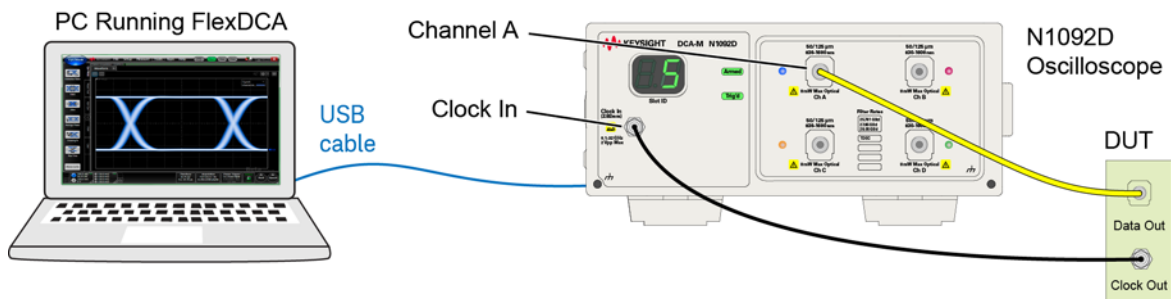

Figure 12 Typical Connection Setup
- 2 Connect the N109X-oscilloscope as shown in **Figure 12**. If connecting to an 86100D, be sure to connect the USB cable to an 86100D *rear-panel* USB port.